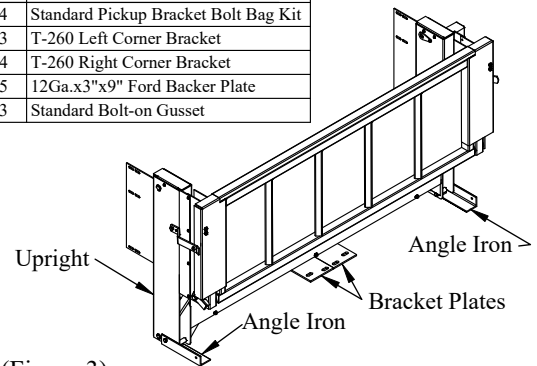

Figure 3: Complete liftgate (G² shown).
4. **Unbolt** and **Save** the two (2) angle irons attached to the liftgate uprights- G² only (Figure 3).
5. **Remove** and **Save** the two (2) bracket plates attached to the liftgate- G² only (Figure 3).